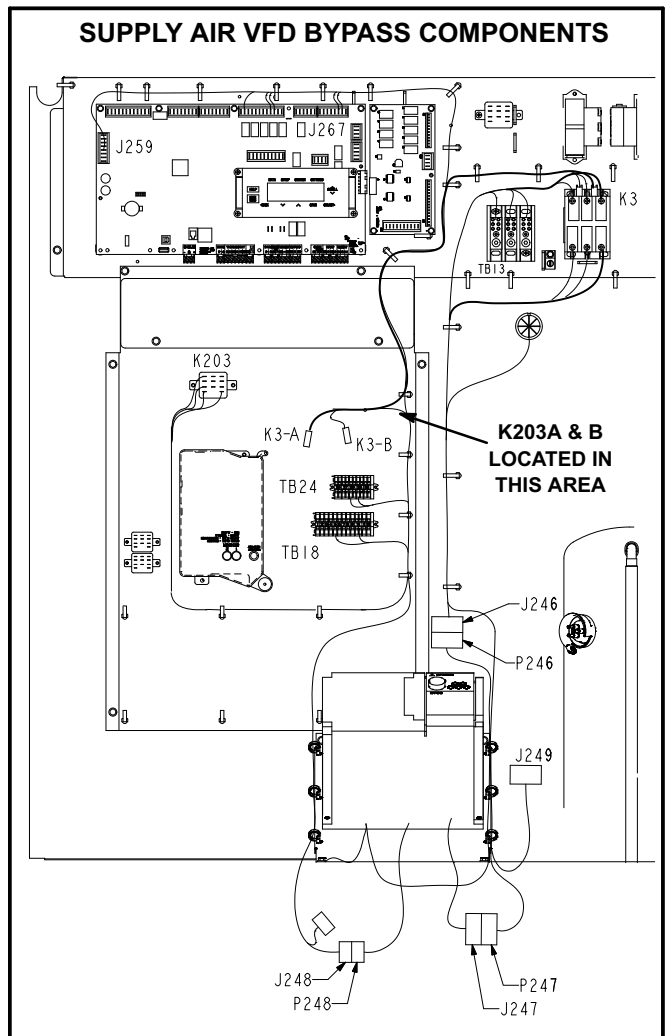

FIGURE 28
- 2- Locate J/P247 and J/P248 connectors near the VFD. See figure 28.
- 5- Locate VFD control relay K203 on the lower control panel next to terminal strip TB24. See figure 28.
- 6- Locate wires labeled K203-A and K203-B in area shown in figure 28. Disconnect insulated terminals.